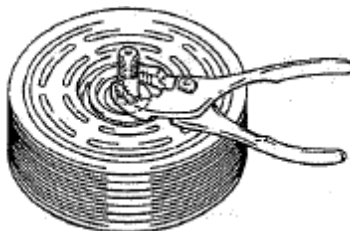

Figure 12-09
- (1) Install shaft key with pliers. (Ref. figure 12-09)